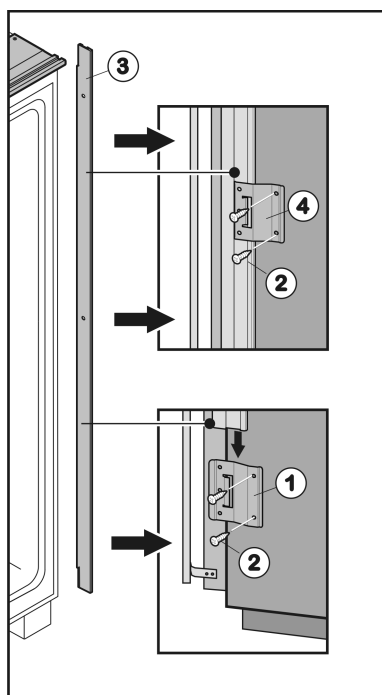
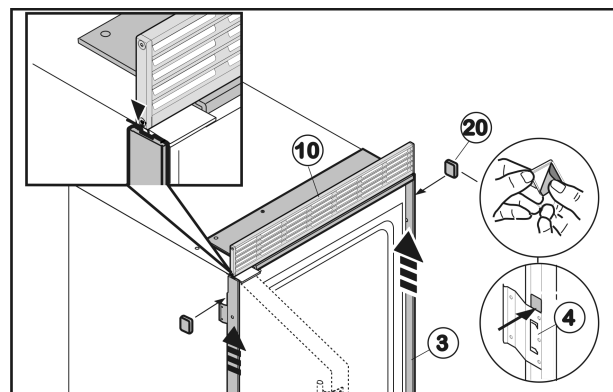
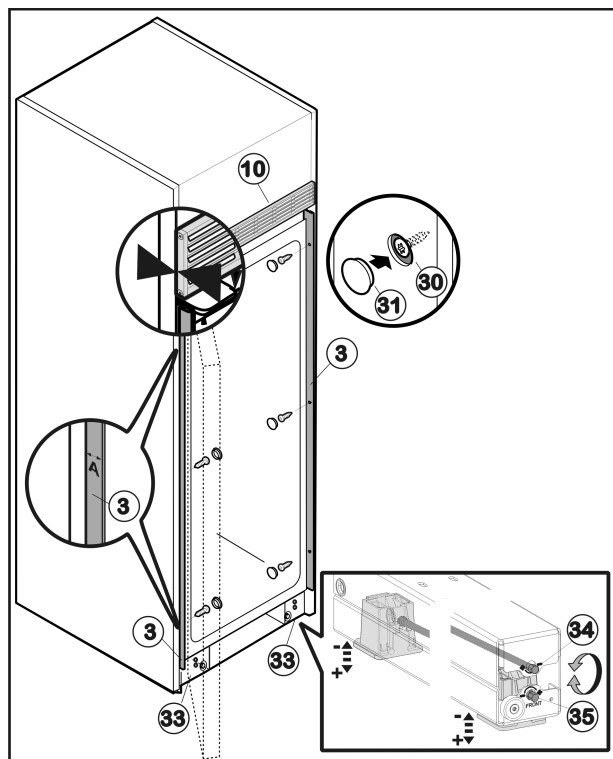

Fig. 30
Fig. 33
Fig. 34
- Fit retaining plate Fig. 30 (1) to the lower part of the handle side by inserting two screws Fig. 30 (2) into the pre-cut holes.
- Slide installation strip Fig. 30 (3) into the retaining plate Fig. 30 (1) from above.
- Push second retaining plate Fig. 30 (4) onto the installation strip Fig. 30 (3) from above and screw to the center of the side wall.
- Push third retaining plate Fig. 30 (4) onto the installation strip Fig. 30 (3) from above and screw to the top part of the side wall.
- Remove adhesive tape from the side installation strip Fig. 33 (3).
- Push installation strip Fig. 33 (3) upwards until it is touching the ventilation grille Fig. 33 (10).
- Glue the adhesive plates Fig. 33 (20) above the retaining plate Fig. 30 (1) and the retaining strip Fig. 33 (4) respectively to the installation strip Fig. 33 (3) such that it cannot slide downwards.
- ▶ Push the appliance into the recess until the rear edge of the ventilation grille Fig. 34 (10) is flush with the front edge of the side wall of the cabinet.
- ▶ Align appliance inside the recess above the roller bases Fig. 34 (33) using a spirit level: Use upper adjustment setting (1/4") Fig. 34 (34) for the rear adjustable foot and lower adjustment setting (1/4") Fig. 34 (35) for the front adjustable foot respectively. Turn clockwise to raise and counterclockwise to lower. Maximum adjustable height: 5/8 in (16 mm).
- ▶ At the top and bottom of the recess check the gap A between the front edge of the installation strip Fig. 34 (3) and the front edge of the side wall of the unit. It must be 1/2 " (13 mm). Realign the appliance in the recess if required.
- ▶ Secure appliance inside the recess using three screws Fig. 34 (30) on the handle side and the hinge side respectively. Do not scratch the side installation strip Fig. 33 (3) when doing so.
- ▶ Place cover caps Fig. 34 (31) over the screws.